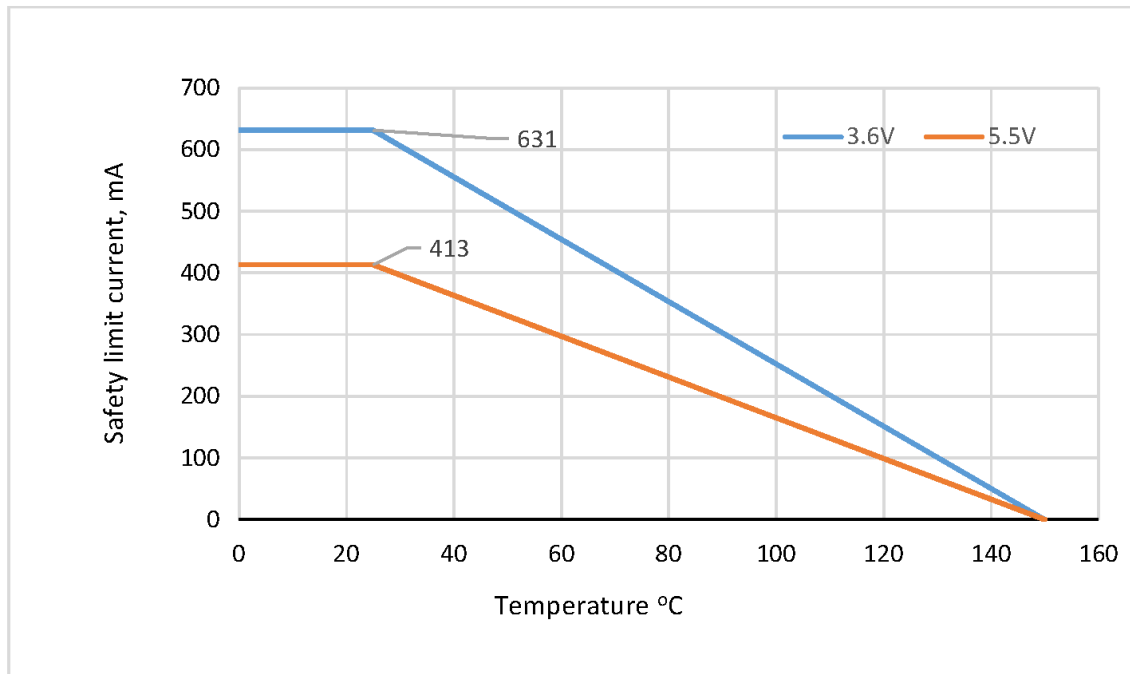

Figure 4.5. WB SOIC-16/20 Thermal Derating Curve Dependence of Safety Limiting Values
1. Maximum value allowed in the event of a failure. Refer to the thermal derating curve in Figure 4.5 WB SOIC-16/20 Thermal Derating Curve Dependence of Safety Limiting Values on page 27 .